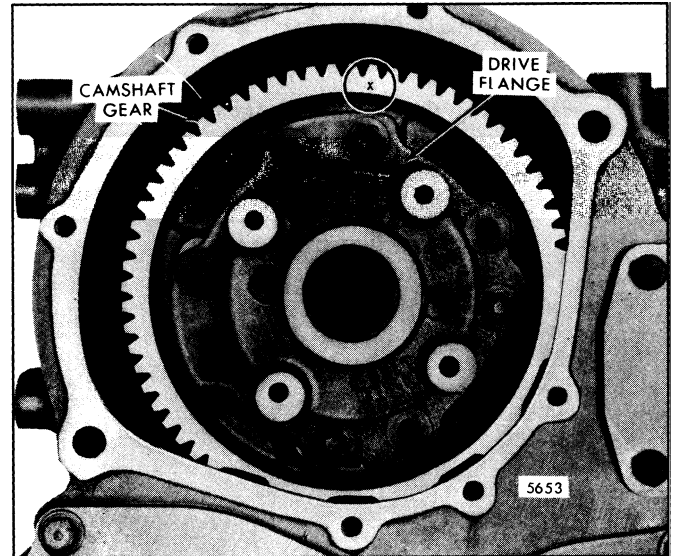

Fig. 8 - Current Left-Bank Camshaft Drive Flange
- a. The former camshaft drive flanges are stamped on the face of the flange (Fig. 8) to identify their proper location, either on the right-bank camshaft or left-bank camshaft.